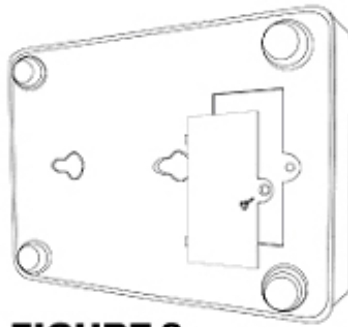

FIGURE 2
- Unscrew the screw at the back of the receiver box. (Refer to FIGURE 2)